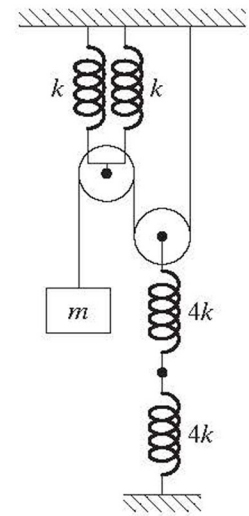

FIGURE 2.56
- 2.13** Find the natural frequency of the pulley system shown in Fig. 2.56 by neglecting the friction and the masses of the pulleys.